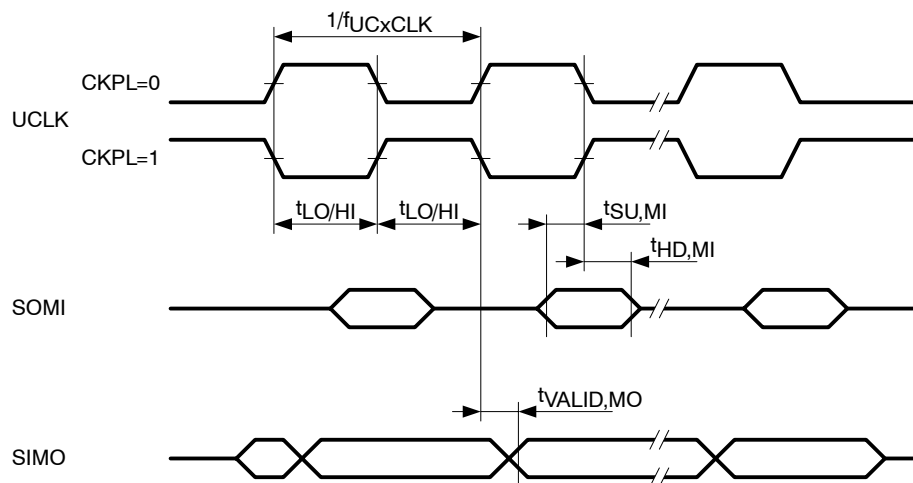

Figure 20. SPI Master Mode, CKPH = 0
**USCI (SPI master mode) (see Figure 20 and Figure 21)**